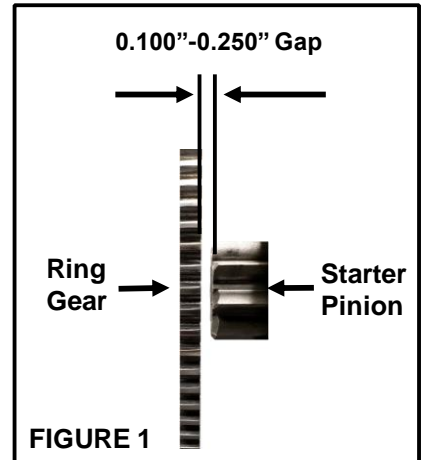
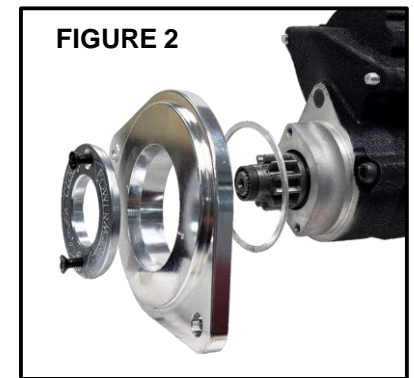
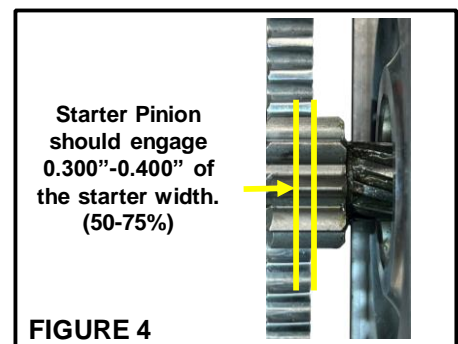

FIGURE 1
FIGURE 2
FIGURE 4
- 2) **FITMENT:** Check starter for clearance against oil pan and exhaust. If adjustment is needed loosen the two T25 screws on the front of the starter. The starter can now be rotated 360 degrees for clearance (Figure 2) and retightened to 50 in/lbs (Wrist tight with hand tools) with a dab of blue Loctite. Note: Use of a starter heat wrap is not recommended and will void your warranty. However, a metal heat shield with air gap between unit and exhaust is optional.
- 3) **PINION CLEARANCE:** The starter pinion gear should have between .100" and .250" "Air Gap" between the teeth and ring gear (Figure 1). If this gap is too loose you can remove the supplied inner shim to move the starter closer to the ring gear (Figure 2). If this distance is too close additional shimming may be needed. Proper engagement is when the starter gear is engaged 1/4" to 3/8" into the ring gear (Figure 4). (See Ford starter depth guide for more info)